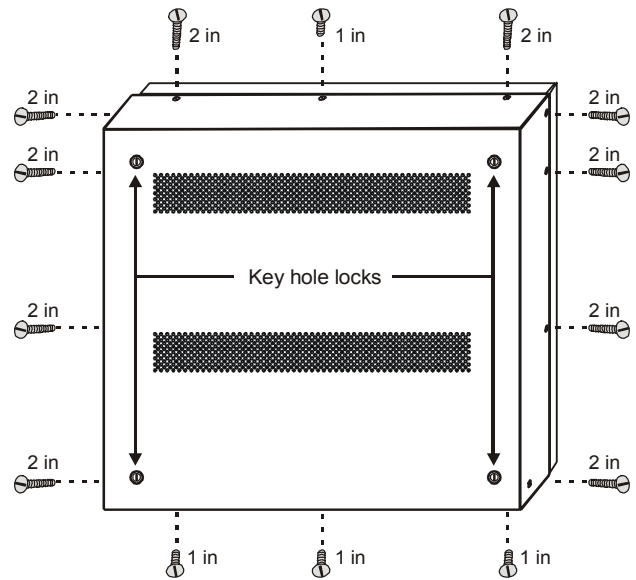

Figure 1: Screw locations
8. Using the fourteen 10-32 screws provided, attach the cover. Make sure to observe proper placement of the one-inch and two-inch screws. (See Figure 1.)